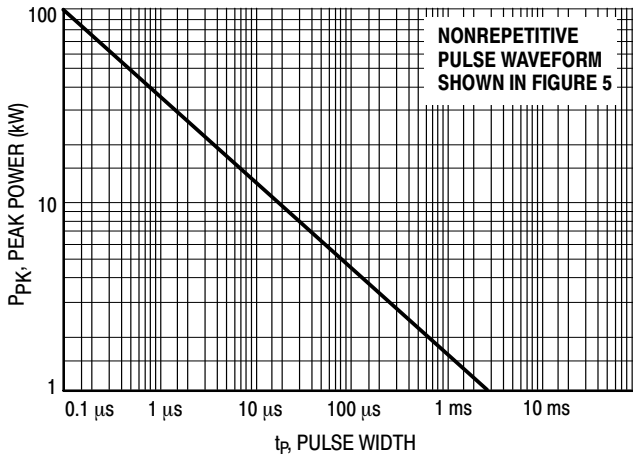

Figure 1. Pulse Rating Curve
6. Surge current waveform per Figure 5 and derate per Figures 1 and 2.
The data of Figure 1 applies for non-repetitive conditions and at a lead temperature of 25°C. If the duty cycle increases, the peak power must be reduced as indicated by the curves of Figure 7. Average power must be derated as the lead or ambient temperature rises above 25°C. The average power derating curve normally given on data sheets may be normalized and used for this purpose.
At first glance the derating curves of Figure 7 appear to be in error as the 10 ms pulse has a higher derating factor than the 10  $\mu$ s pulse. However, when the derating factor for a given pulse of Figure 7 is multiplied by the peak power value of Figure 1 for the same pulse, the results follow the expected trend.